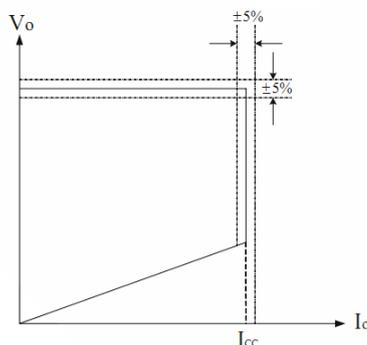

Fig.1. Typical CC/CV Curve
Proprietary Constant Voltage (CV) and Constant Current (CC) control is integrated as shown in the Fig. 1. In CC control, the current and output power setting can be adjusted externally by the sense resistor  $R_S$  at CS pin. In CV control, multi-mode operations are utilized to achieve high performance and high efficiency.